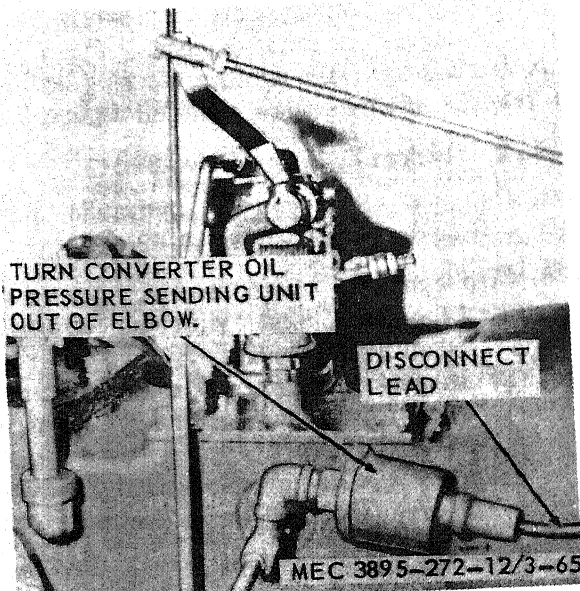

Figure 3-65. Torque converter oil pressure sending unit, removal and installation.
a. *Removal.* Remove the torque converter oil pressure sending unit as instructed on figure 3-65.
- (1) Clean the sending unit with a cloth and cleaning solvent.
- (2) Inspect the unit for damage. Check it for proper operation. Replace a defective sending unit.
c. *Installation.* Install the converter oil pressure sending unit in reverse of instructions on figure 3-65.